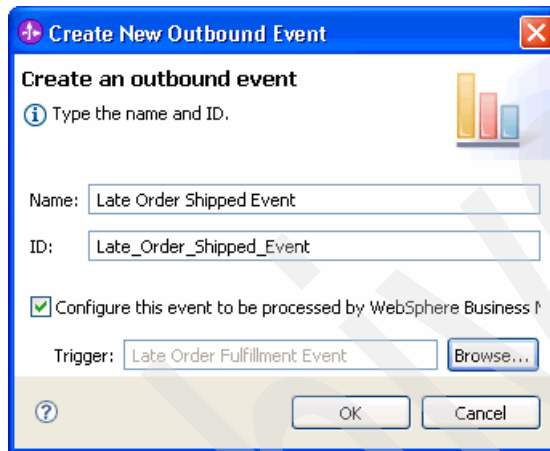

Figure 5-56 Creating the Late Order Shipped Event Outbound Event
3. In the Create New Outbound Event window (Figure 5-56):